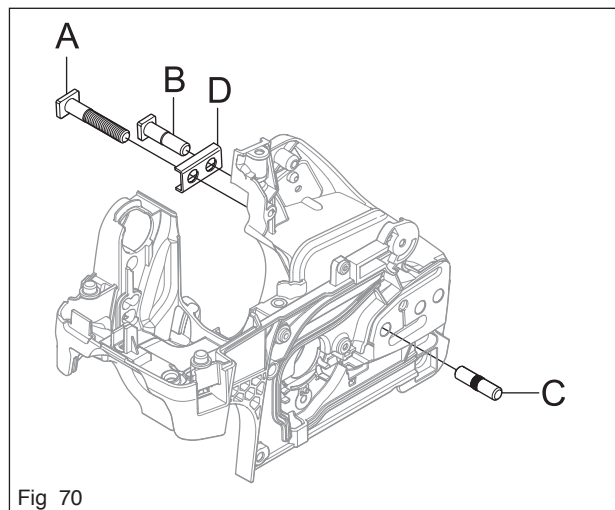

Fig 70
Secure steel wire to the outer part of the bar bolt (A), thread the steel wire through the oil tank and out through the bolt hole in the crankcase (see figure 70).
Pull out the bar guide (C) with the help of slip-joint pliers (see figure 70).